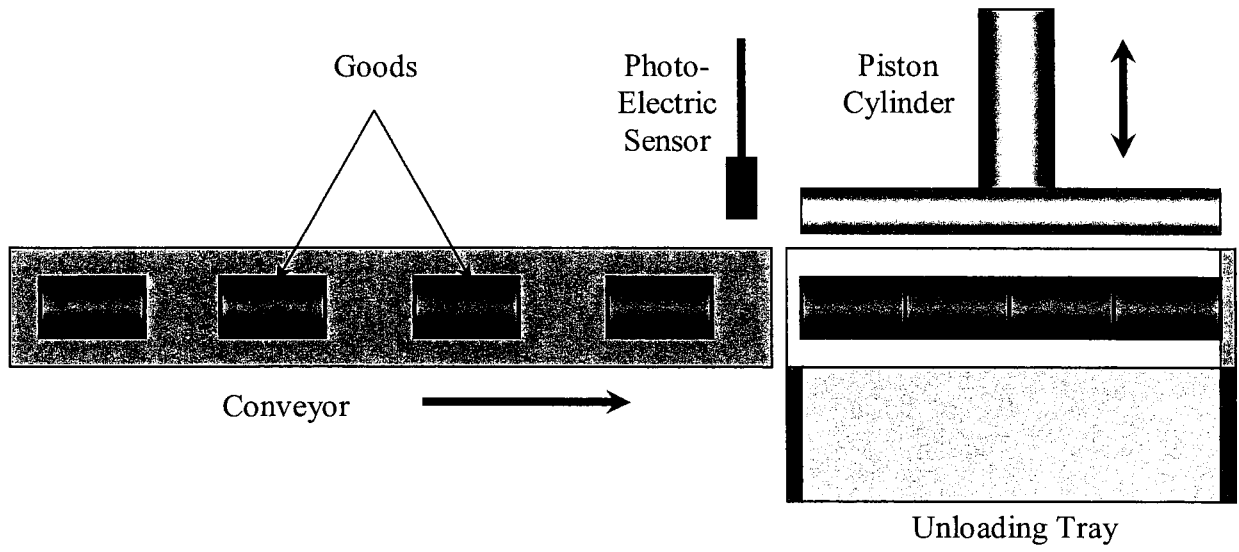

Figure Q3
c) A control circuit is used to detect and count the number of goods being carried on an assembly line conveyor as illustrated in Figure Q3 (plan view) below. When PB Start is pressed, the conveyor will start moving in the direction as indicated. Once the photo-electric sensor detects four (4) goods, the system's control circuit stops the conveyor and energizes a control valve's solenoid that will then causes a pneumatic cylinder's piston to activate. The piston cylinder is energized for a period of 2.5 seconds and is then deactivated, causing it to retract. Then, the conveyor will start moving automatically. The whole process is repeated until PB Stop is pressed. By using the given illustration and I/O assignment list in Figure Q3, Table Q3 (a), and Table Q3 (b), respectively, design the ladder logic diagram for the system.